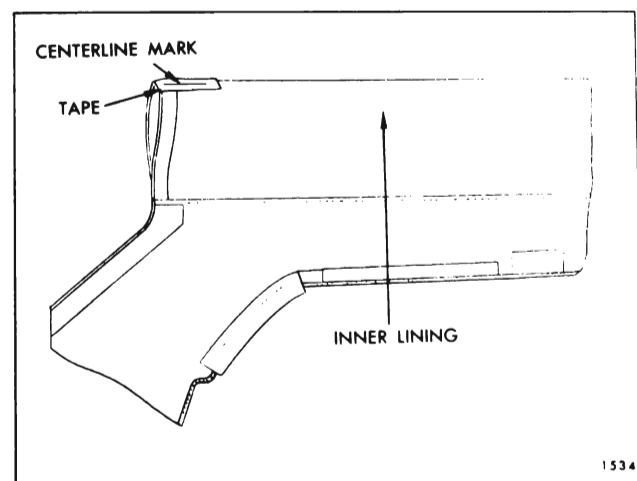

Fig. 13-39 — Marking Folding Top Material
4. Fold new top material in half so that inner lining of top material is exposed (Fig. 13-39). Install a 6" piece of tape on inner surface at centerline fold of new top material (Fig. 13-39). Using a pencil, mark the approximate centerline of new top material along entire length of tape.